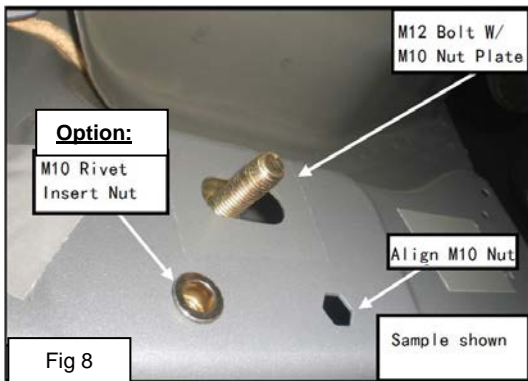
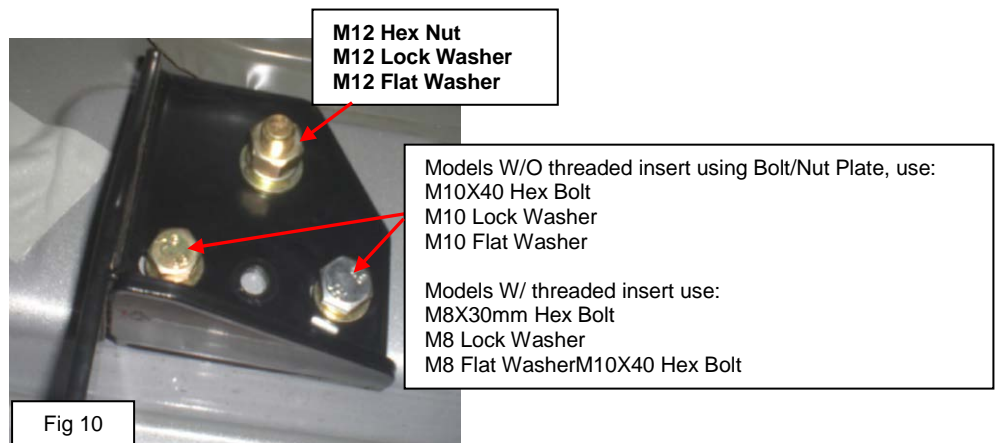

Fig 8
Fig 10
6	<p>Move to the Driver Center Bracket (LC). For Models without factory threaded inserts on the body panel: Select (1) M12 Bolt W/ Nut Plate, repeat Step 3 to install the Bolt W/ Nut Plate(Fig 8). Attach the driver Center Bracket (LC) to the Bolt W/ Nut Plate with (1) M12 Flat Washer, (1) M12 Lock Washer & (1) M12 Hex Nut. (Fig 10). Do not tighten hardware at this time. Option: Insert a M10 Rivet Insert Nut into the hole on rocker panel, and secure the Center Bracket with (1)M10X30mm Hex Bolt, (1) 10mm Flat Washer, (1) 10mm Lock Washer.(Fig 8 ,9&10)</p> <p>For Models with Factory threaded inserts on the body panel (Fig 4): Attach the Driver Centre Mounting Bracket (LC) onto the threaded insert with (2) M8X30mm Hex Bolt, (2) M8 Lock Washer & (2) M8 Flat Washer (Fig 10). Leave the hardware loose.</p>